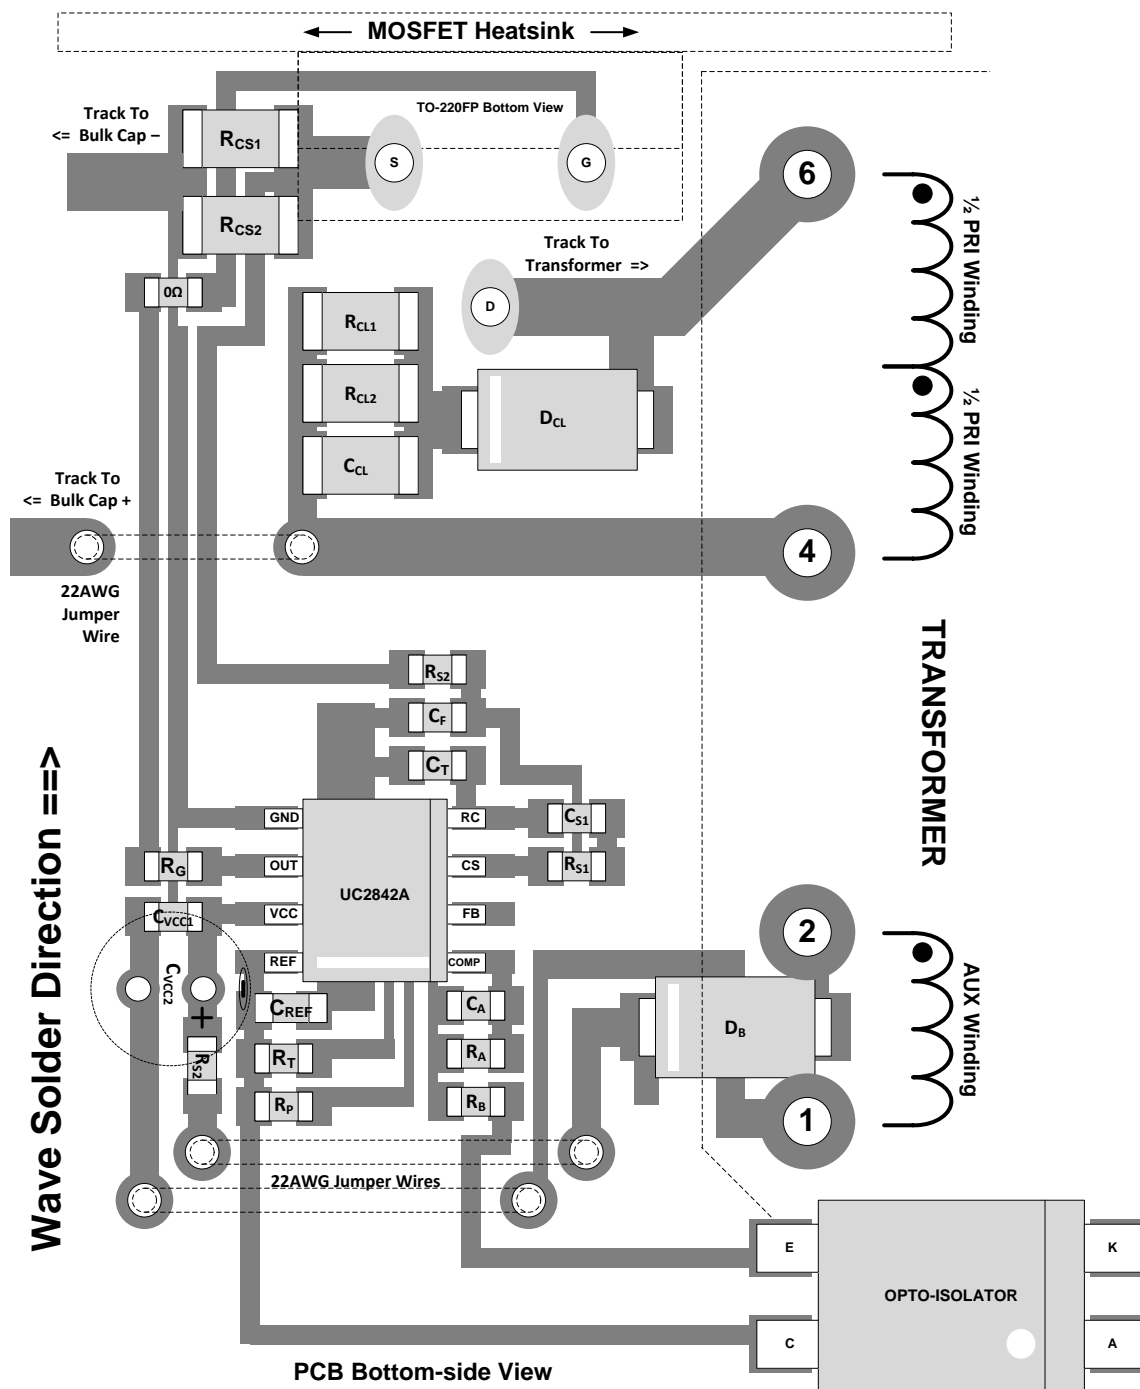

Figure 15. Layout Diagram
- Figure 15 shows the SMD components arranged for wave-solder on a single-layer board. If multiple layers are used, some components may be rearranged for easier interconnection and reduced current-loop areas. If the solder process allows, placing the SMD components in perpendicular orientations may improve interconnections and loop areas.